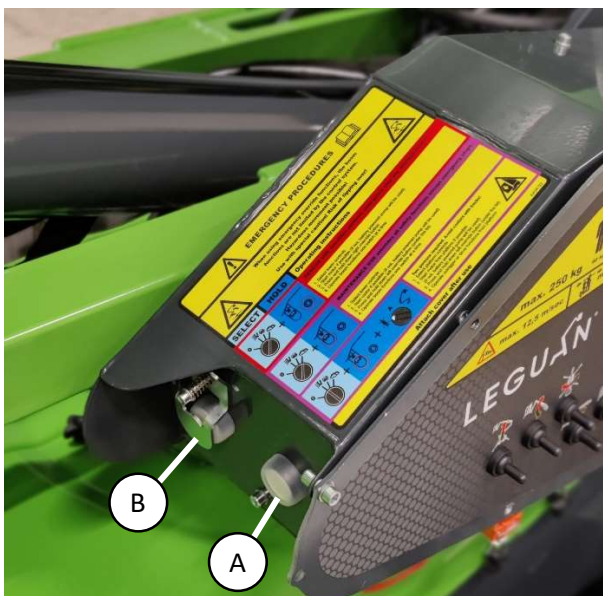

Figure 13. Override buttons
For possible emergency situations the access platform is equipped with load control and platform emergency stop button override button (figure 13 (A)). The button must only be used in **extreme emergency situations**, for example the operator has lost consciousness in the platform, the emergency stop button has been activated and the must be lowered for their safety. The platform must be moved to directions that decrease the overturning moment (towards the center of the machine). **The manufacturer is not responsible for misuse of the function!** The override button is located on the left-hand side of the lower control panel and is only operational
3. Press and hold the override button closer to the operator (figure 13 (A)).
For possible emergency situations the access platform is equipped with a safety function override button (figure 13 (B)). It enables the operation of drive, outrigger and boom functions in fault situations. The function can for example used in a situation where a sensor has broken, and the machine must be moved to a safe location to be repaired. **Use extreme caution and only in emergency situation!**
3. Press and hold the override button under the lid further from the operator (figure 13 (B)).